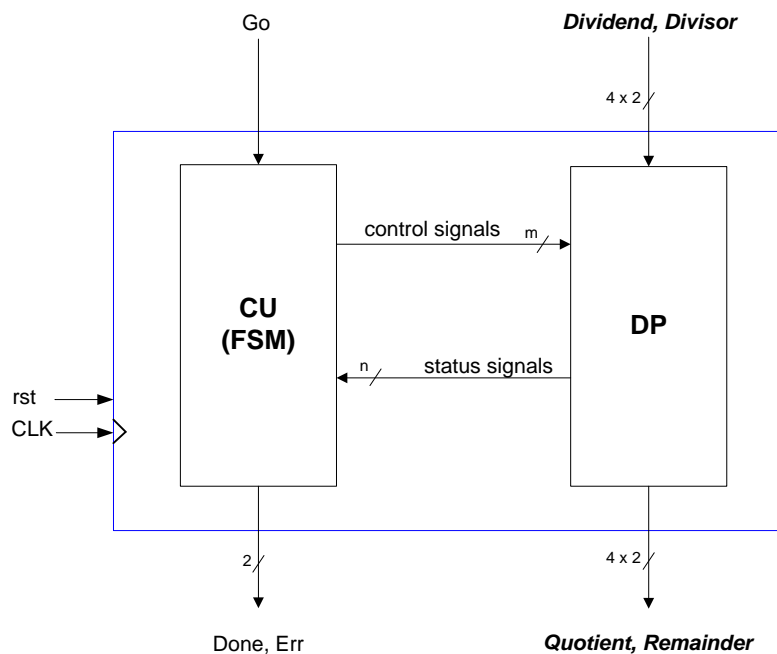

Figure 1: The system's CU – DP model.
In this assignment, you will design a 4-bit unsigned integer divider, using the systematic design methodology taught in class. The top-level system configuration is illustrated by Figure 1 shown below, where the data path (DP) consists of properly interconnected functional units for data processing, while the control unit (CU), which is an FSM, generates control signals to steer the DP's cycle-by-cycle operation.
In Fig. 1, when the reset signal *rst* is active, all clock triggered components in CU and DP are cleared. As the result, the CU goes to its Idle state, and the shift registers and counter in the DP are reset to zero. The signal *Done* is asserted when the division is completed. The *Err* signal is to flag the “divide- by-zero” error.
- 4) For Task 1 (DP), include schematics of the DP's microarchitecture.
- 5) For Task 2 (CU), include the ASM chart describing the system's cycle-by-cycle operation, as well as the *state transition diagram* and the *output table* extracted from the ASM chart.
- 6) For Task 3 (integration), include a diagram for the system's CU-DP model (refer to Fig. 1), with all signals explicitly shown.